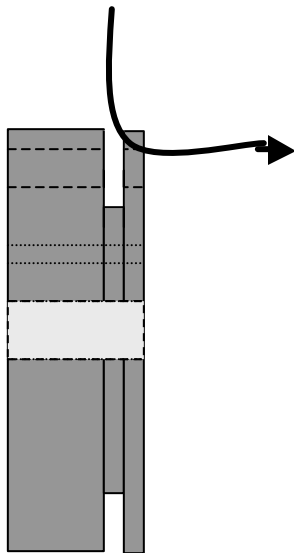

**Figure 1-2**
*NOTE:* All letters and labels refer to Figure 1-2.
- 4) Remove the cover from over the Encoder wheel (B).
- 6) Insert the soft eyelet of the new cable up through the air box and over the first pulley (C).
- 7) Loop the cable around the second pulley (D), so that it leads to the left.
- 8) Go over pulley (E), and lead the cable down.
- 9) Lead the cable through the deadweight pulley (F) from left to right, than up and over pulley (G).
- 10) Slowly pull cable and guide the deadweight into its tracks until the retaining screw and nut can be replaced (A).